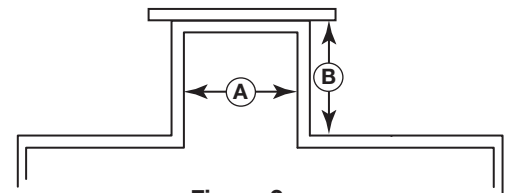

Figure 2
1. Nozzle must be  $\frac{3}{4}$ " (19 mm) diameter (A) or larger.
2. Ratio of diameter (A) to length (B) is 1:1 or greater. Any ratio < 1:1 (e.g., a 2" x 6" nozzle = 1:3) can be used but may require a BLOCKING DISTANCE and/or SENSITIVITY adjustment. See Figure 2.